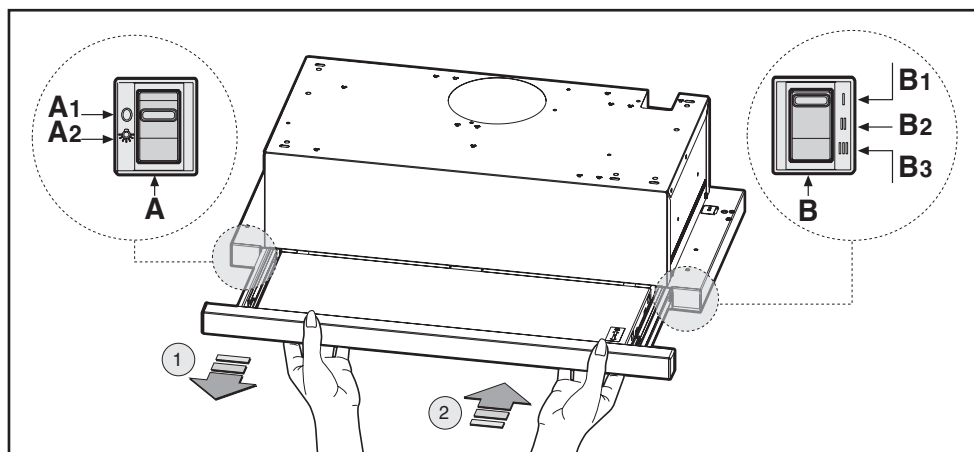

Fig.9
• Commands (Fig.9) slider the key symbols are explained below: